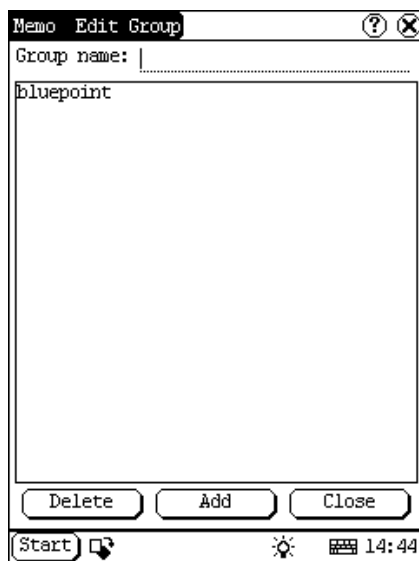

Figure 4-18
- 1) Click the [▼] button on the top right of the interface ① so that the type list pops up.
- 5) Click [Add] button to add a new type and it will be displayed in the list box of the Edit Group interface. (See Figure 4-18)